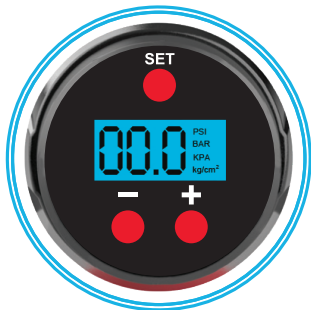

Fig.5
- Press “SET” button to choose the desired unit (PSI, BAR, KPA, kg/cm²). See Fig. 5.